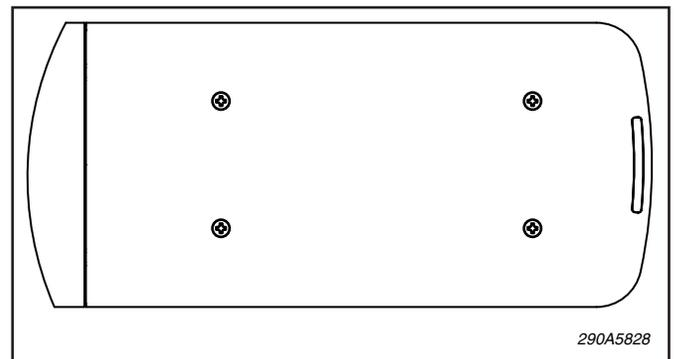

Figure 2.
B. Top Removal (see figure 2).